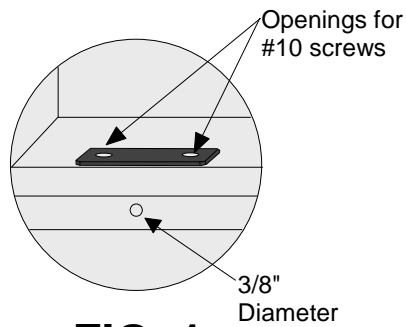

FIG. 1
1. Place top mounting plate at the edge of the cabinet and mark location of mounting screws. Drill two holes for #10 screws. (13/64"). (FIG.1)
Drill hole 3/8" under the cabinet plate for cable connection to the valve. (FIG.1)